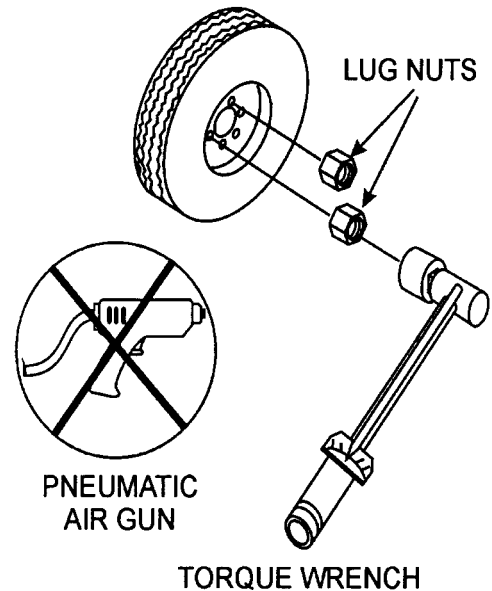

Figure 61. Wheel Lug Nuts Tightening Sequence
2. Torque all lug nuts in sequence. See Figure 61. **DO NOT** torque the wheel lug nuts all the way down. Tighten each lug nut in 3 separate passes as defined by Table 18.